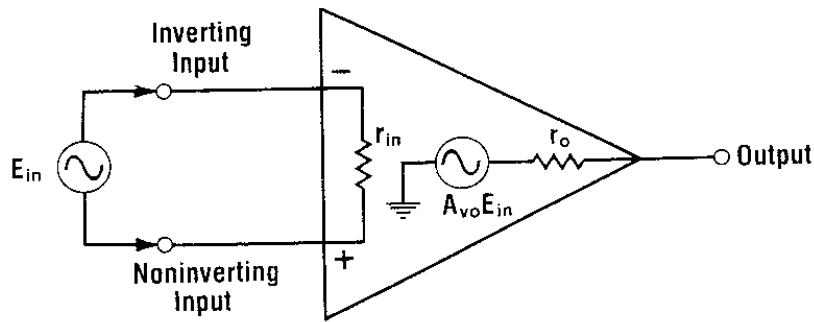

Figure 4. The equivalent circuit of an ideal operational amplifier.
26) For the ideal operational amplifier in Figure 4
27) For a real operational amplifier similar to that pictured in Figure 4 the bandwidth is infinite.
28) For a real operational amplifier similar to that pictured in Figure 4 the output is perfectly zero if the difference between the + and - inputs is zero.